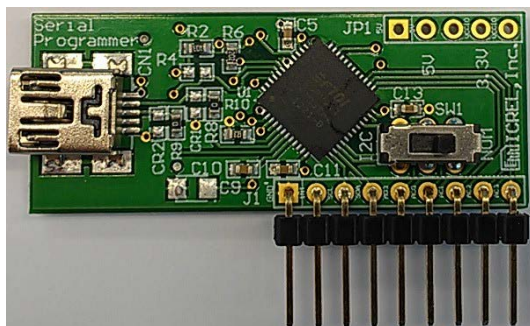

Figure 6. Top Side of the Adapter with the Mini Slide Switch Toggled to NOM Position
5. Set the mini slide switch SW1 on the MICUSB Dongle EV. The SW1 should be toggled to the NOM position as shown in Figure 6.